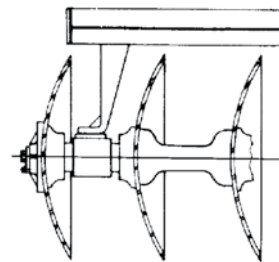

Figure 6
11 - Lift the rear or front frame, align the disc section, note their placement in figure 3. Assembly the frame (1) with the disc section through the bolt (2) according to figure 4, watching that the support of the bearing fixation must face the disc concavity according to figure 6.